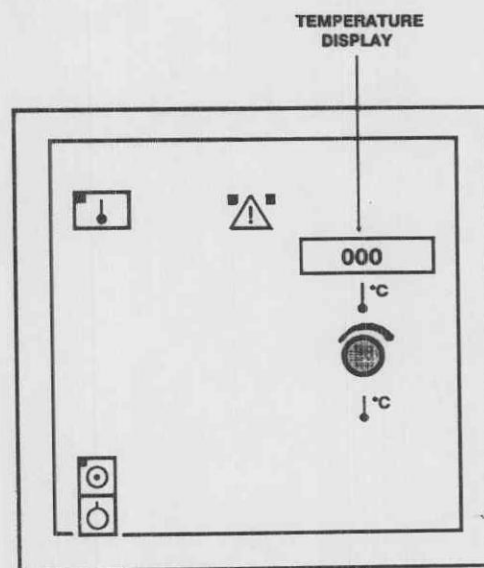

Figure 3-8. Temperature control calibration display.
- (1) Place the voltmeter negative probe on P6 - J1 and the positive probe on P1 - J1.
- (2) Adjust resistor "R26" until the voltmeter indicates  $+2.0 \text{ VDC} \pm 0.005$ .
- g. Connect a temporary jumper from the upper end of resistor "R29" to P3 - J1. Adjust resistor "R23" so that the temperature display is "000" (fig 3-8).
- (1) Lift the control housing slightly upward to release the latch and then lower it.
- (2) Open the storage compartment door.
- (3) Twist the screw located in the lower right corner to lock the control housing.
- (4) Close the storage compartment door.